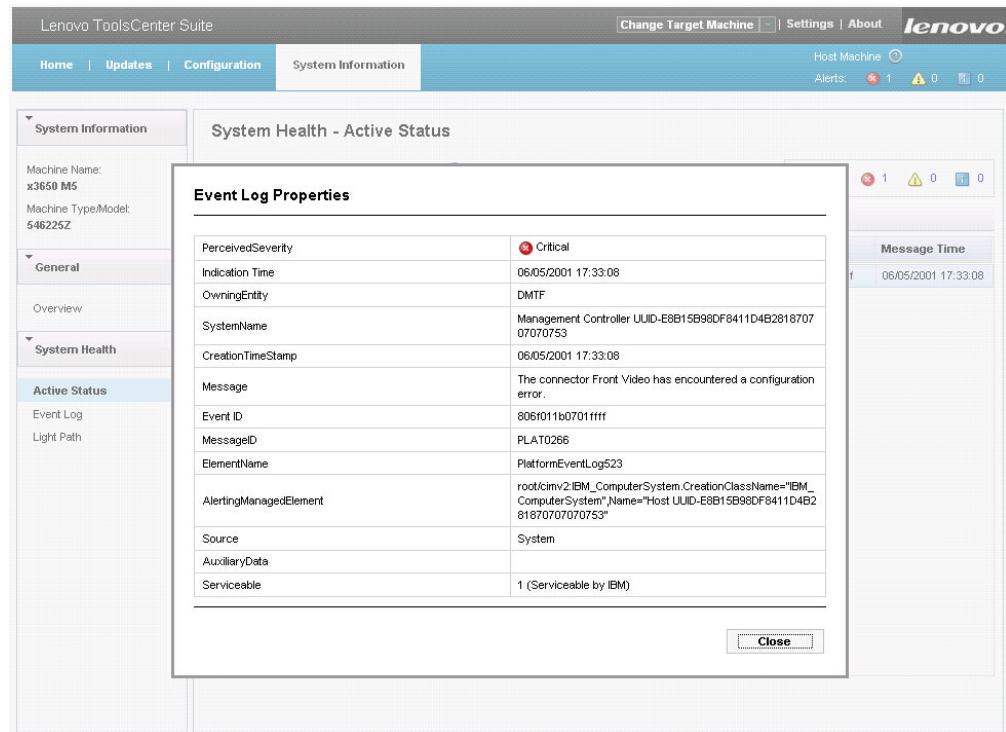

Figure 59. System Health - Active Status Property example
- In Active Status table, you can click a row to view details for that row. See Figure 59 on page 73.